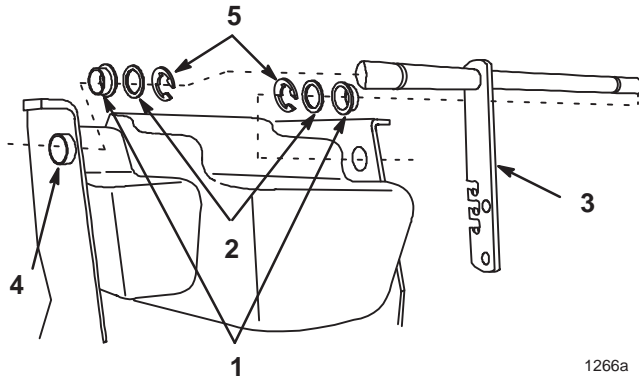

Figure 8
6. Slide a shim washer and bushing onto ends of lift lever rod. (Fig. 8).
7. Position lift lever into frame and slide bushings and shim washers outward into frame holes. Secure in position with E-rings (Fig. 8).